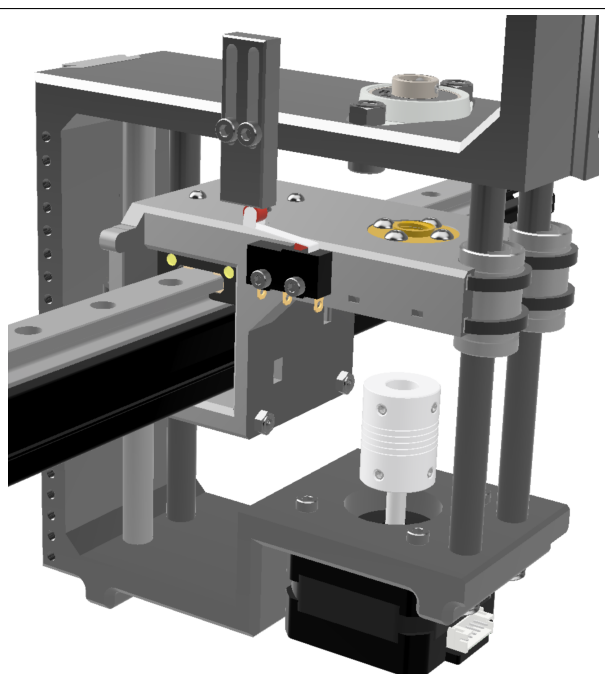

Fig. 4: 4.Rear rods and z-limit switch
4. The two 108 mm rods can now be inserted into the back of the carriage, with a linear bearing on each, but this must be done with the assembly attached to the linear rail (Fig. 4 below).